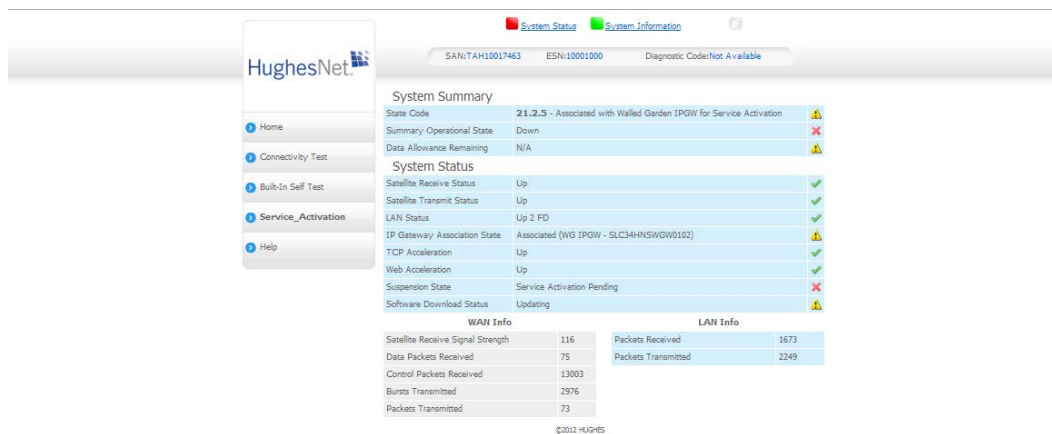

Figure 35: System Status screen
4. The System Status screen appears. Ensure that all downloads are complete as indicated by the green check marks following the procedures or tasks as shown in Figure 35.